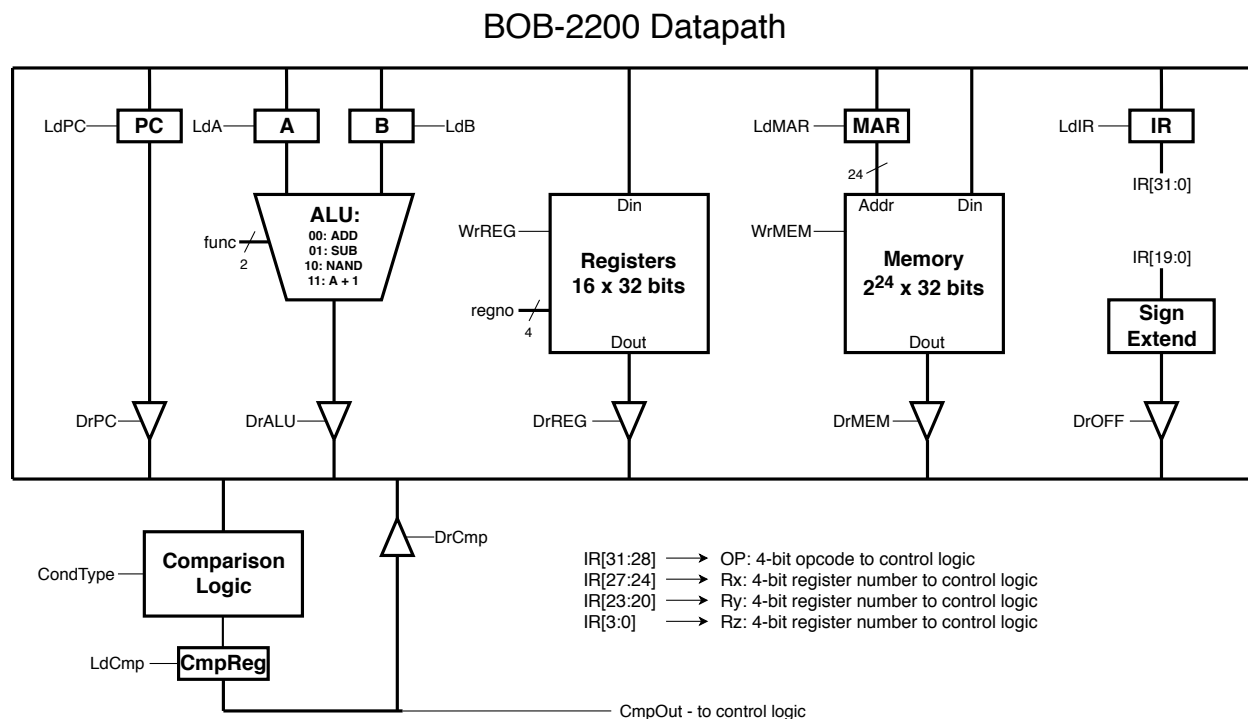

Figure 1: Datapath for the BOB-2200 Processor
2. Using Brandonsim, implement the BOB-2200 datapath. To do this, you will need to use the details of the BOB-2200 datapath defined in Appendix A: BOB-2200 Instruction Set Architecture. You should model your datapath on Figure 1.
The “comparison logic” box in Figure 1 is responsible for performing the comparison logic associated with the BNE and SLT instructions. The comparison logic should read the current value on the bus. When executing BNE or SLT, you should compute  $A - B$  using the ALU. While this result of the ALU is being driven on the bus, the comparison logic should read the result  $A - B$  and output a “true” or “false” value for either the condition  $A \neq B$  or  $A < B$  depending on the CondType signal.
2. Implement the Microcontrol Unit using Brandonsim. The appendix contains all of the necessary information. Take note that the input and output signals on the schematics directly match the signals marked in the BOB-2200 datapath schematic (see Figure 1).
3. Connect the completed control unit to the datapath you implemented in Phase 1. Using Figures 1 and 2, connect the control signals to their appropriate spots.